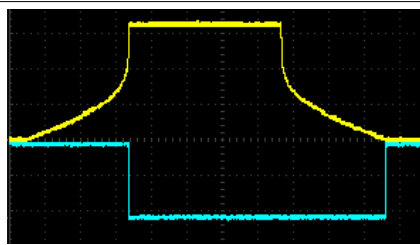

Figure 10b: End-of-Fall (EOF)
- End-of-Fall outputs a gate that goes high when the fall segment ends and goes low when a rise segment ends. It is low during a sustain segment. It will stay high when the envelope is not running. Another name for this jack might be "Envelope is Rising or Resting". See figure 10b.